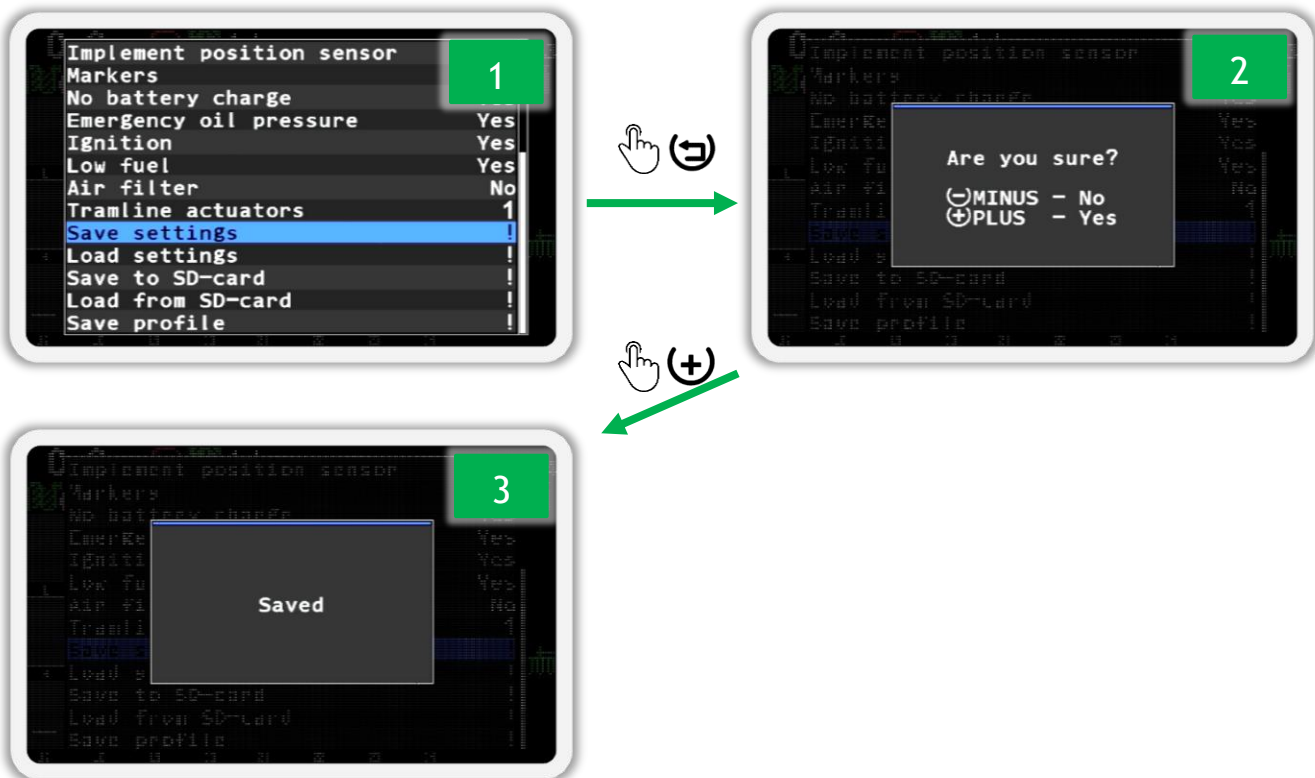

Figure 59 Saving settings
2. Select the  “Save settings” menu item (see Figure 59 p.1) and press the  “Menu” button. As a result, a message will appear on the screen asking you to confirm the action (see Figure 59 p.2).
3. Press the  “Plus” button to confirm. As a result, the message “Saved” will appear on the screen (see Figure 59 p.3). After that, you can freely experiment with the settings.